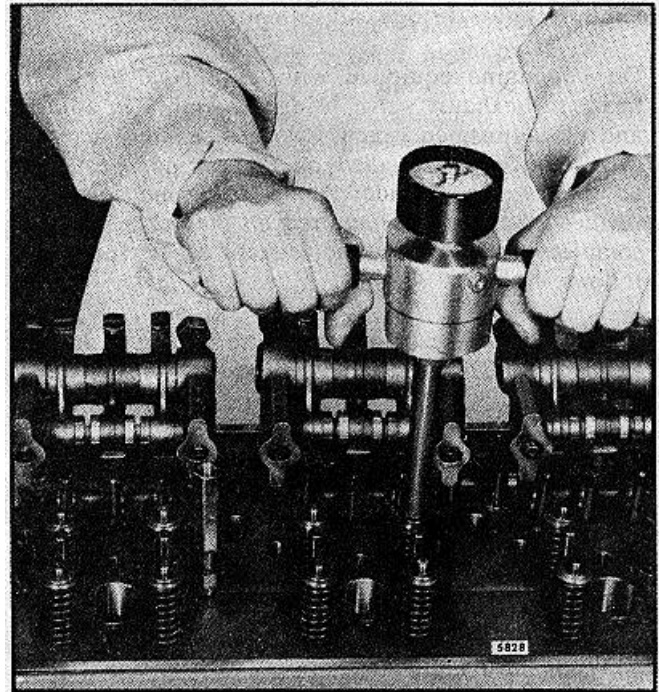

FIG. 21 - Checking Pressure Required to Open the Exhaust Valve in Cylinder Head
11. With the exhaust valves installed in the cylinder head, use spring checking gage J 25076-01 and note the gage reading the moment the exhaust valve starts to open (Fig. 21). The minimum allowable pressure required to start to open the exhaust valve must not be less than 15 pounds (67 N) for a two-valve cylinder head or 20 pounds (89 N) for a four-valve cylinder head (two-spring design).